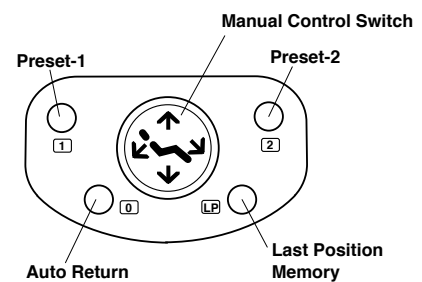

Fig.4-1 Foot Control
#### (1) Preset position Adjustment (Fig.4-1)
#### (2) Mouth Rinsing Position Adjustment (Fig.4-1)